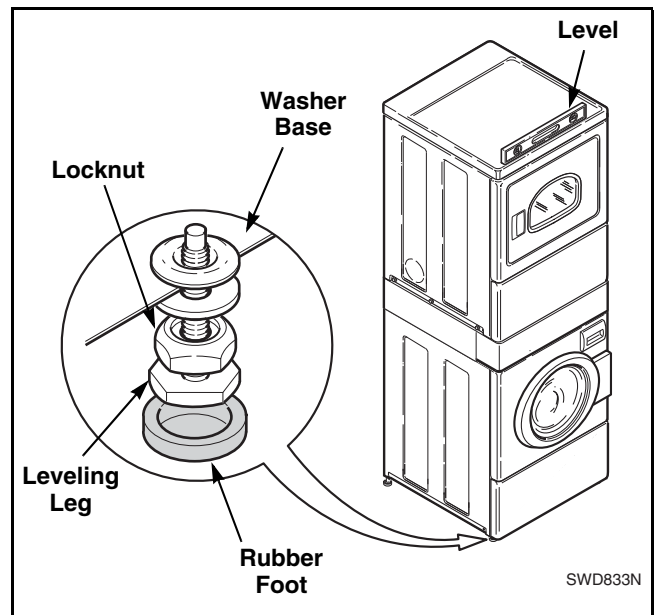

Figure 5
NOTE: Level must be on a raised portion of top panel. Refer to *Figure 5*.
- Loosen locknuts and adjust the leveling legs until the unit is level from side to side and front to back (using a level). Make sure unit **does not rock**. Refer to *Figure 5*.
- Place rubber feet on all four leveling legs. Refer to *Figure 5*.